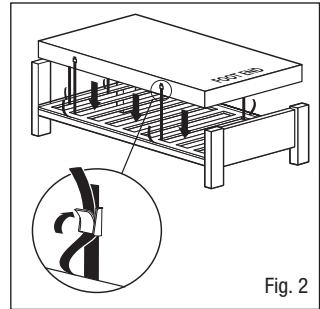

Fig. 2
3. Secure the mattress to the bed frame using adjustable straps - pass straps around bed frame mattress platform and secure with the buckles (Fig. 2), allowing for moving components on electric bed frames. This is important as it stops the mattress becoming detached from the bed frame and causing possible injury to the patient. A strap extension kit is available for use with divan beds (part number 11062).